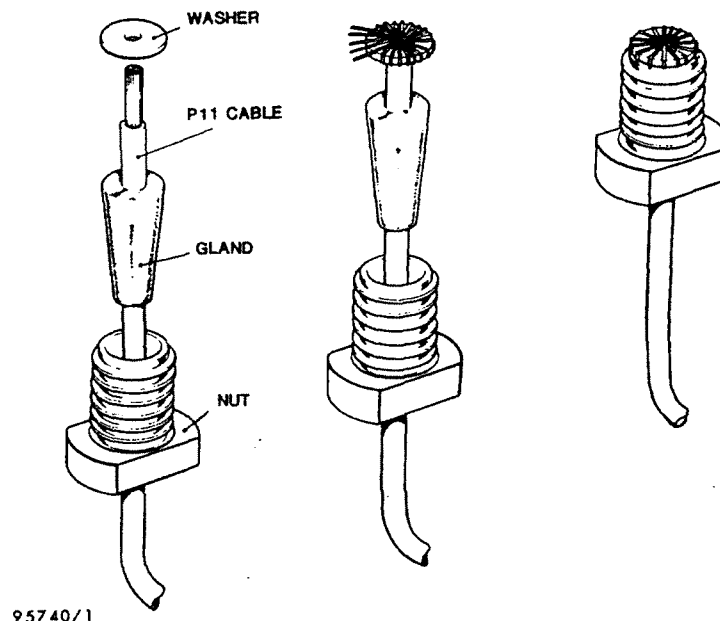

Fig 1 - Gland and washer assembly
- c. Fit lead to nut, gland and washer assembly as detailed in Fig 1.